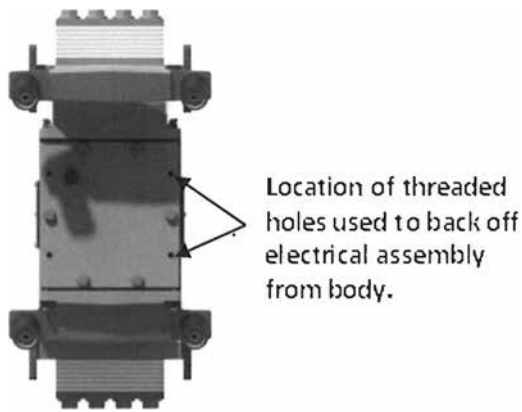

Figure 9: Bottom View of Feeder
4. Remove the six bolts securing the electrical assembly to the feeder body. Take four of the removed bolts and insert them into the threaded holes shown in Figure 9 to back off the electrical assembly from the body.